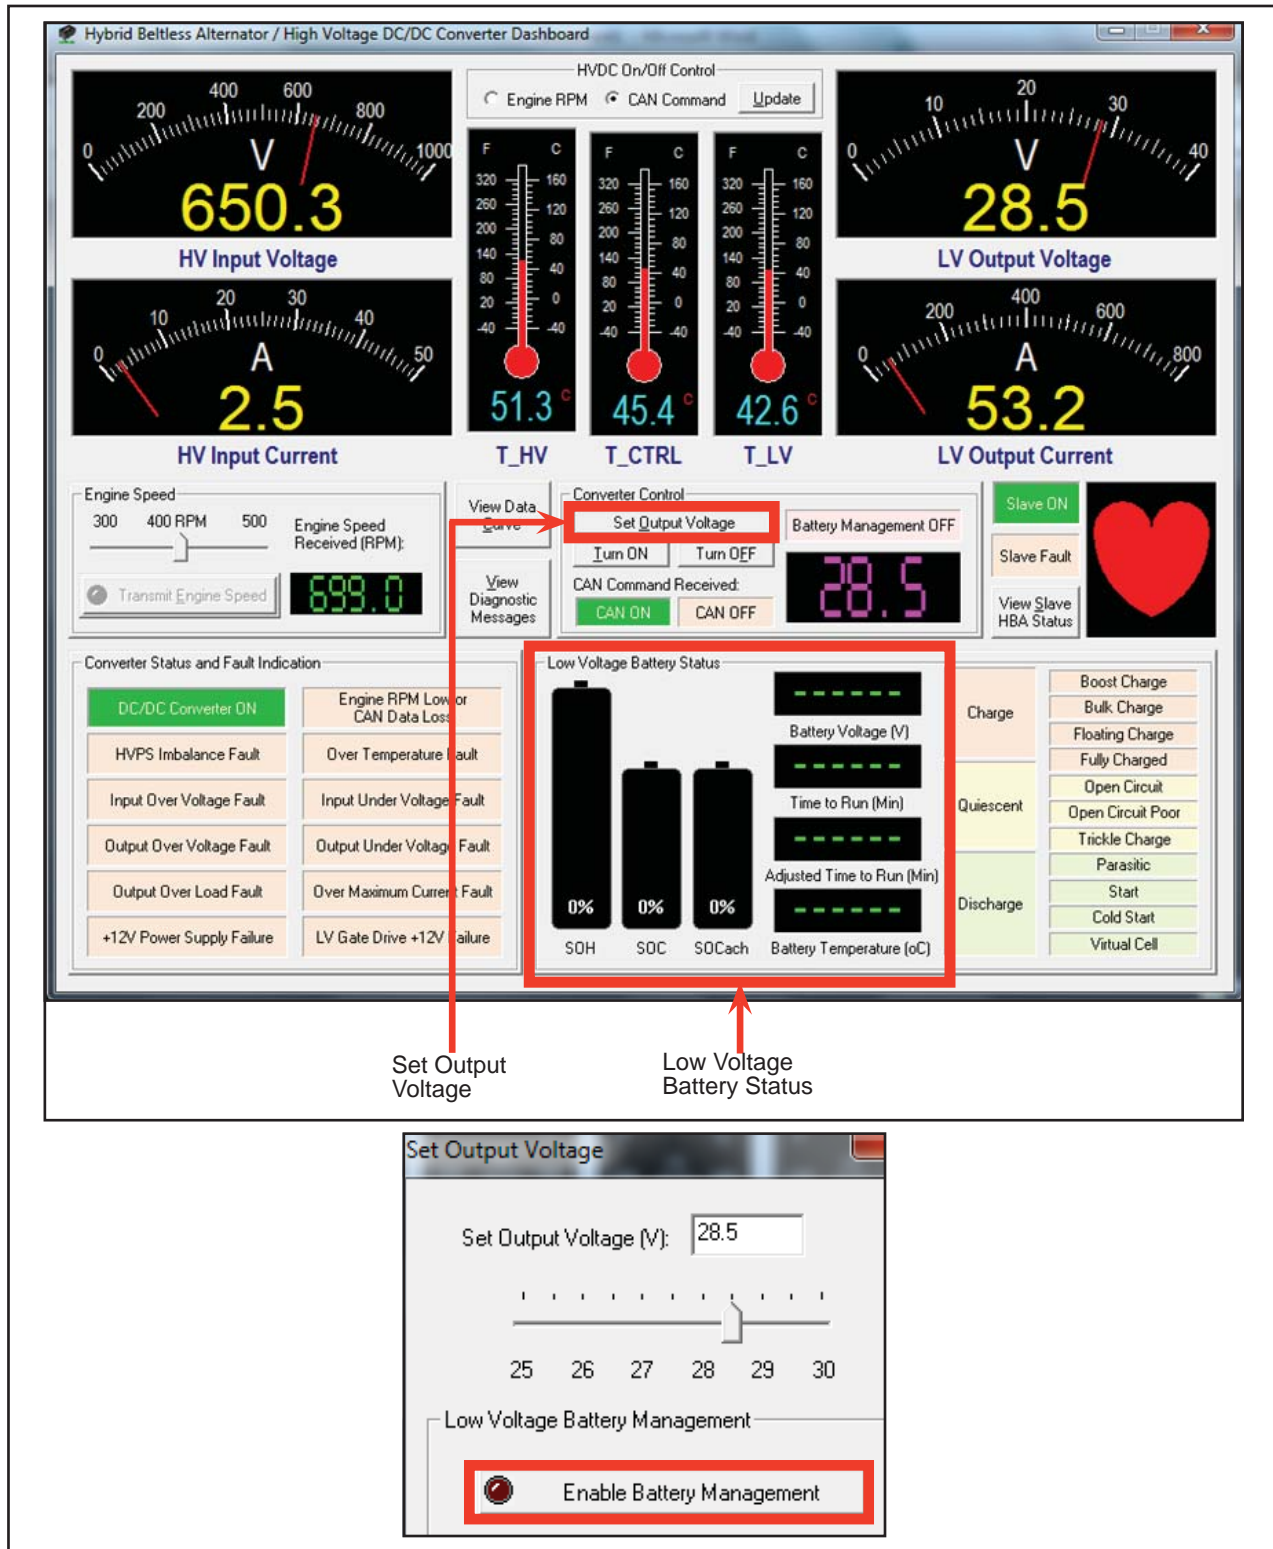

Figure 3 - Typical View of HBA Startup and Set Output Voltage Screen
- 1.5. If battery management is inactive, "Low Voltage Battery Status" will be 0% (see Figure 3).
- 1.6. Click on "Set Output Voltage" in converter control (see Figure 3).